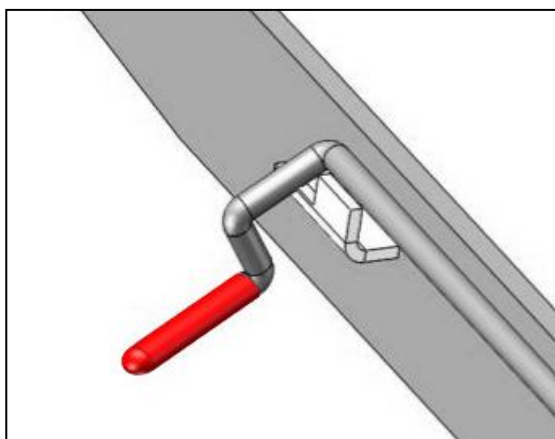
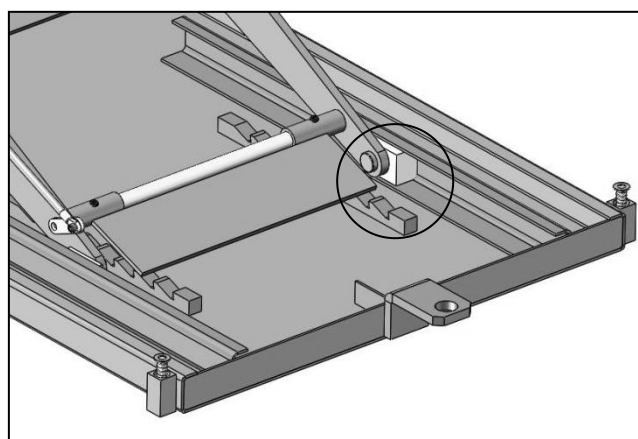

Fig.26
Fig.27
4. **To lower the lift:** Raise the lift for several seconds. Rotate the safety lock handle downward as the state of **Fig.26**. After the safety device is released (**see Fig.27**), Press the "RELEASE" of the pneumatic pump pedal, the lift would be lowered.